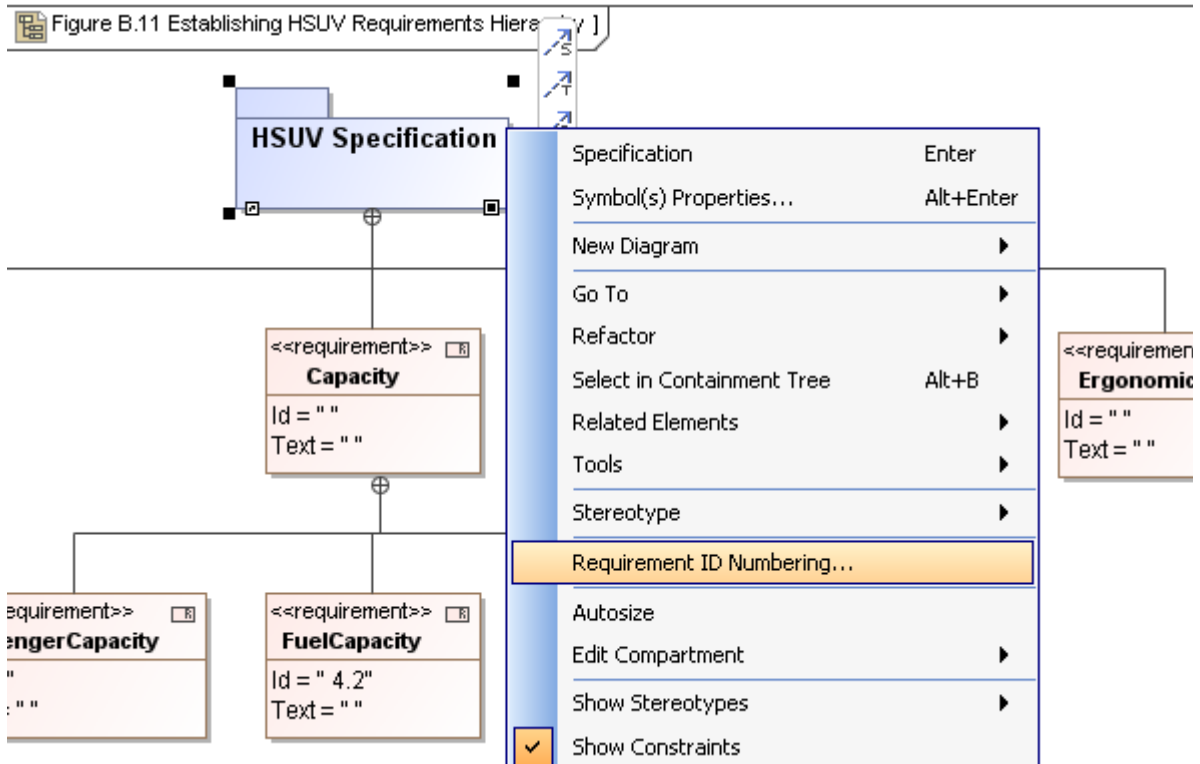

Figure 138 -- Requirement ID Numbering Shortcut Menu
- the diagram shortcut menu of the package containing the requirement(s), for example, the **HSUV Specification** package in Figure 138, or of the requirement you would like to number; or